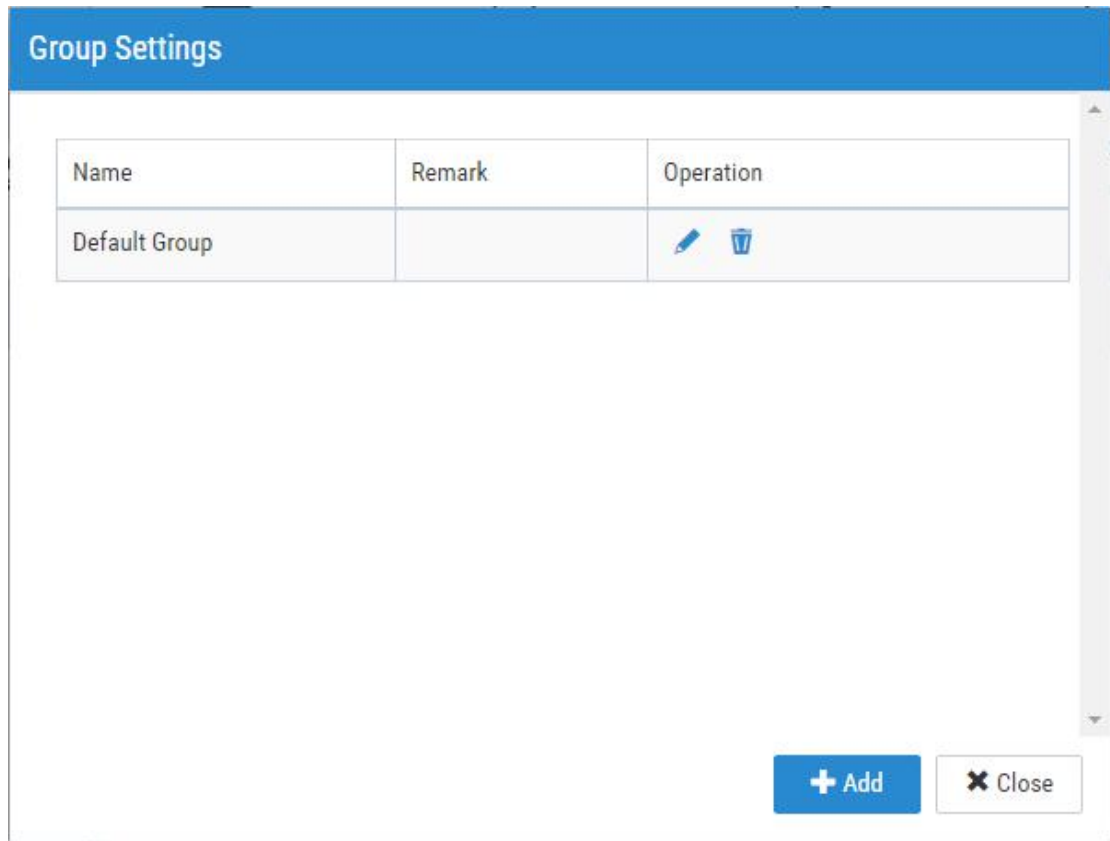

Fig. 4.8-3 The "Group Settings" dialog
(2) After clicking the "Group Settings" button, the "Group Settings" dialog will pop up, as shown in Fig. 4.8-3. There is only one "Default Group".